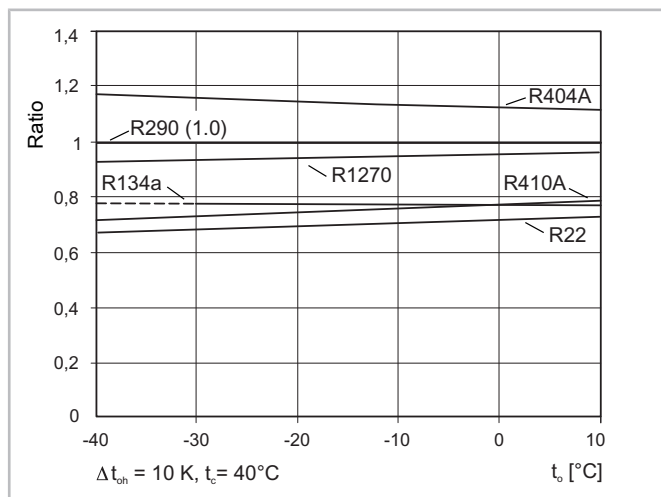

Fig. 6: Liquid volume flow of various refrigerants compared with R290 at identical refrigerating capacities
- Identical dimensions of the liquid line such as for R22 (higher liquid volume flow, but lower pressure drop due to lower density), see figure 6, page 21.